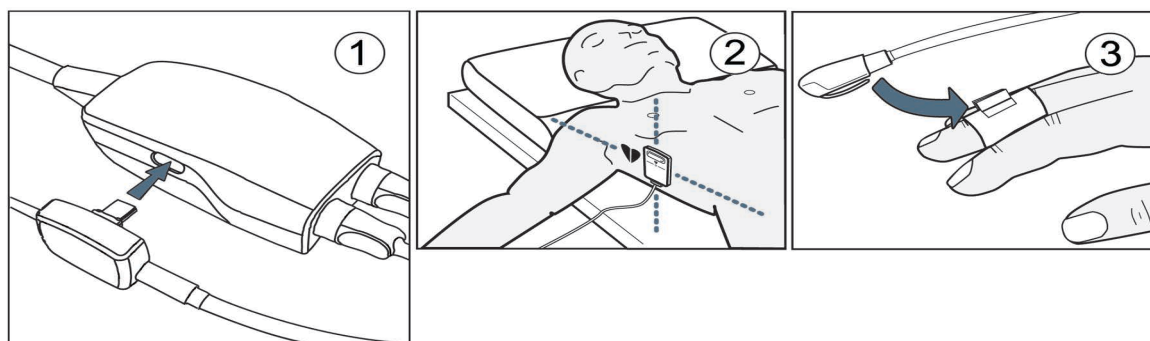

Figure 11-7 Heart reference sensor application
- 1 Connect the HRS to the wrist applied pressure controller. See ① in figure 11-7.
- 3 Apply the heart end of the HRS to the patient at phlebostatic axis level by using an HRS clip. See ② in figure 11-7.
- 4 Attach the other end of the HRS to the finger cuff. See ③ in figure 11-7.